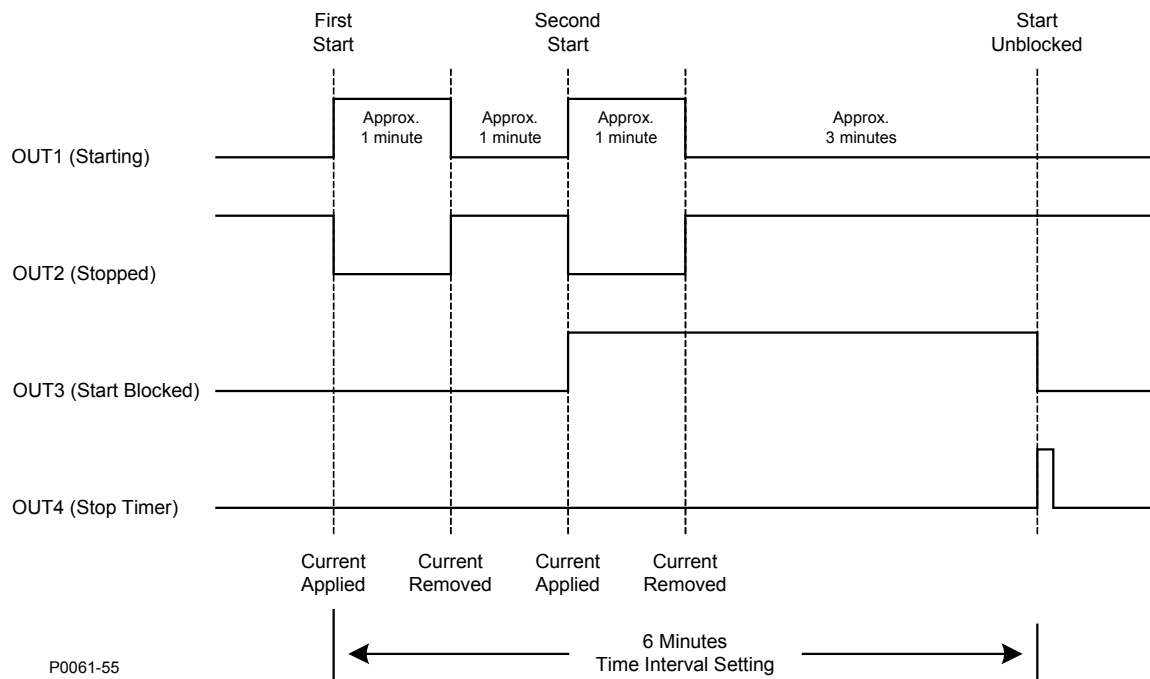

Figure 72-2. Test Sequence
Step 3: Prepare to monitor 66 function operation. Operation can be verified by monitoring OUT1 (Starting), OUT2 (Stopped), OUT3 (Start Blocked), and OUT4 (Start Blocked Removed). See **Error! Reference source not found.** The test sequence is illustrated in Figure 72-2.